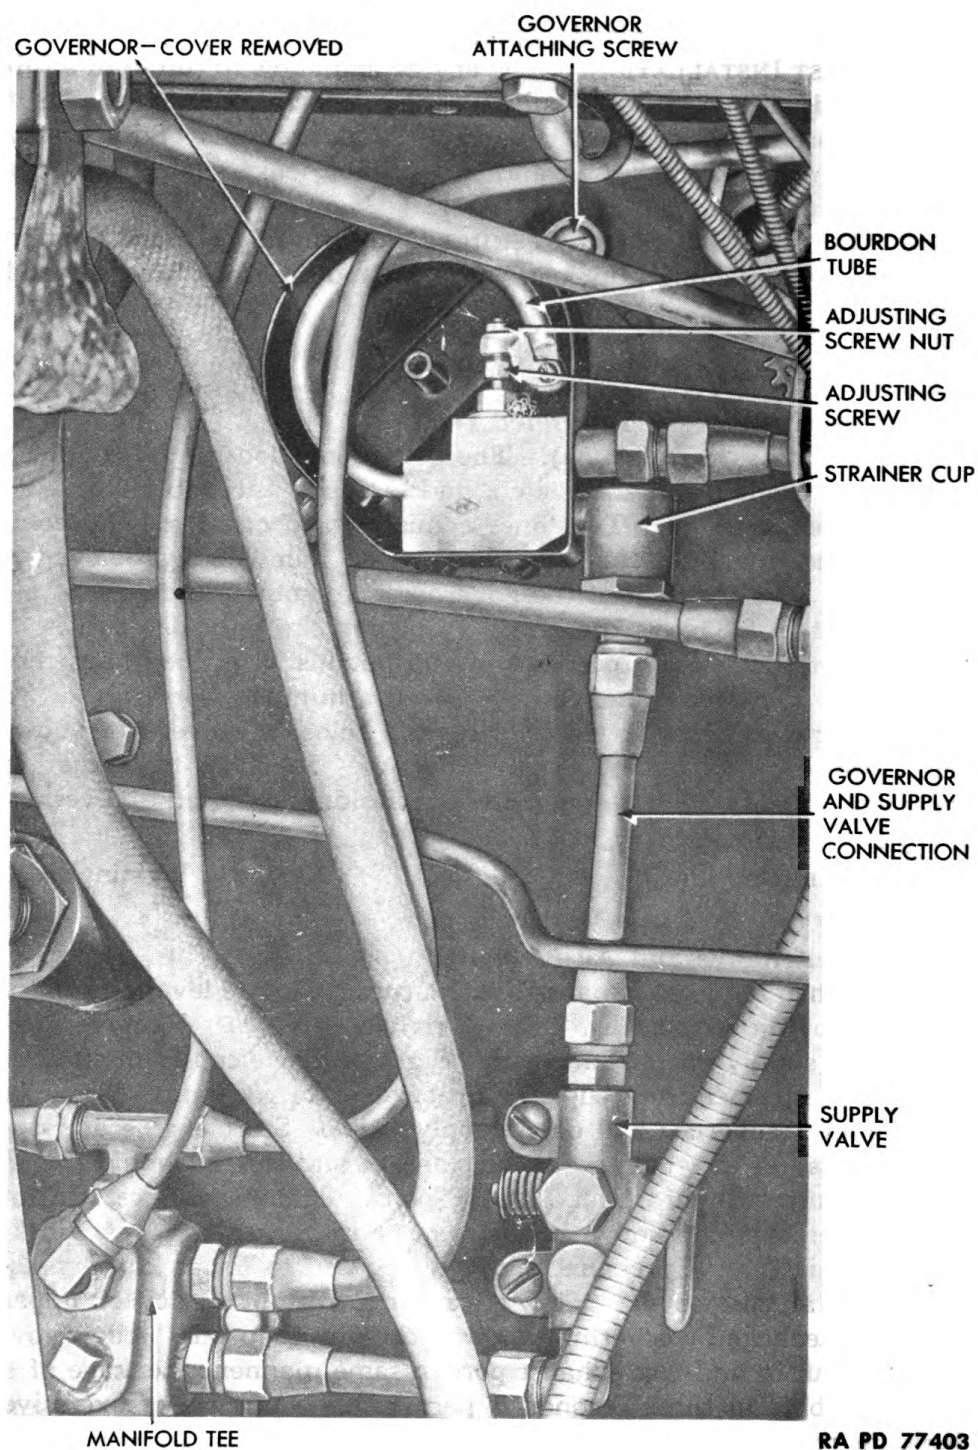

Figure 71 — Air Pressure Regulator Governor
(1) **DESCRIPTION** (fig. 71). The governor is located on the dash above the cranking motor switch, and is easily accessible from the driver's compartment. Two lines connect to it, one from the compressor and one from the manifold located immediately below the governor. The function of the governor is to control pressure of air in the system. This is done by its opening the unloader valves in the compressor, when a pressure of 105 pounds is reached, thus rendering the compressor ineffective. When a minimum pressure of 85 pounds is reached, the governor closes the unloader valves and allows the compressor to again become effective. Pressure from the air reservoir tanks, routed through the manifold, operates the governor.
(2) TABULATED DATA.
(1) When required in paragraph 22, turn crosswise lever on supply valve below governor (fig. 71). This closes valve. Remove governor and supply valve connection. Screw strainer cap from strainer cup. Pull strainer from cup. Wash strainer in gasoline. Assemble and connect governor and open supply valve. Start engine and observe pressures at which governor cuts out and in. It should cut in at 85 pounds and cut out at 15-to-20 pounds higher pressure. If not within these limits, remove case cover. Turn adjusting screw clockwise to raise cut-in pressure, counterclockwise to lower cut-in pressure. Install case cover. Allow governor to cut out and check upper valve for leakage by covering exhaust port with soapsuds. Allow governor to cut in and test exhaust port in same manner. Leakage of a 3-inch bubble in three seconds is permissible. In case of excessive leakage replace governor (par. 114 c).
(2) When required (par. 22) remove case cover. Lubricate valve stem with a few drops of penetrating oil. Install case cover.
(1) **DISCONNECT TUBING** (fig. 71). Screw governor and supply valve connection from governor. Screw governor to compressor tube from governor.
(2) **DETACH GOVERNOR FROM DASH** (fig. 71). Remove both governor attaching screws. Do not lose spacers. Lift governor from dash.
(1) **ATTACH GOVERNOR TO DASH** (fig. 71). Place governor in position on dash. Place spacers between governor and dash and install both governor attaching screws.
(2) **CONNECT TUBING** (fig. 71). Screw governor to compressor tube onto upper fitting on governor. Connect governor and supply valve connection to elbow on governor.
(3) **TEST OPERATION** (fig. 71). Start engine and observe pressures at which governor cuts out and in. Satisfactory operation indicates correct installation. Adjust if necessary (step b (1) above).